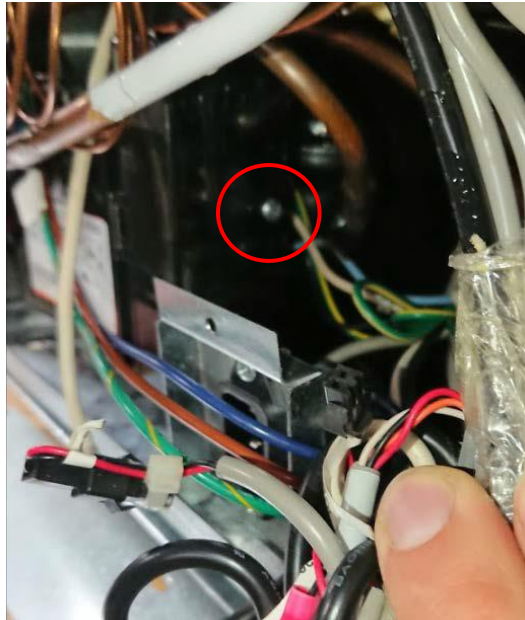

Figure 69: Screw shown.
- Remove one screw with short (A) Philips bit. See **Figure 69**.